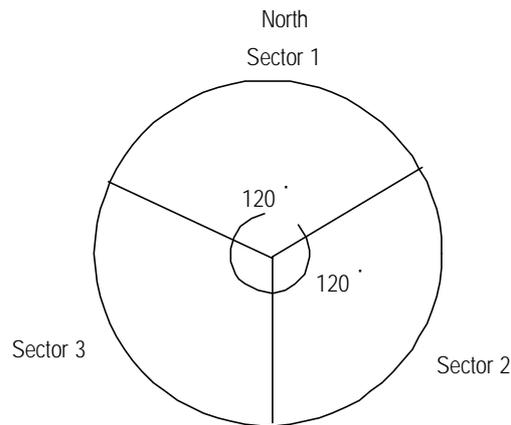

Figure 3-26 Correspondence between directional antenna azimuth and sector
- 3) Adjust the antenna azimuth angle: Determine the antenna azimuth angle with a compass according to the engineering design documents. Normally, Starting from the north clockwise, the area covered by the first antenna is sector 1. Sector 2 lies in the clockwise 120° direction and sector 3 in the next clockwise 120° direction, as shown in Figure 3-26. While adjusting the azimuth, turn the antenna azimuth slightly till it satisfies the design index value with the azimuth error not greater than 5°.